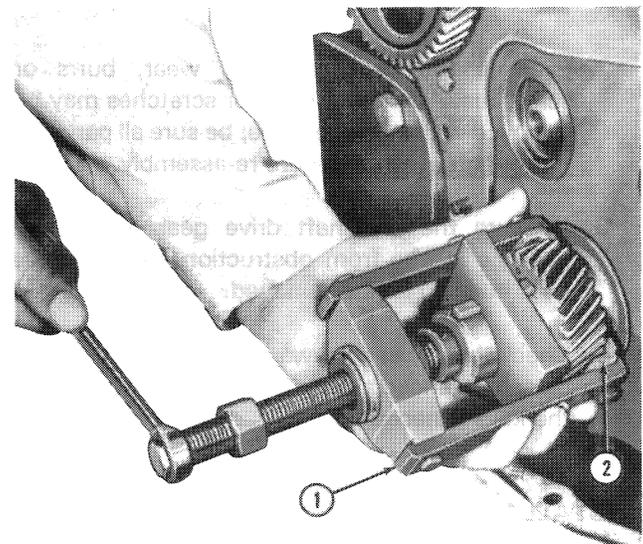

Figure 25
8. Remove the fuel injection pump drive gear, camshaft drive gear and adapter and the camshaft gear. Use Tool No. 2134, 2137 to remove the crankshaft gear, Figure 25.